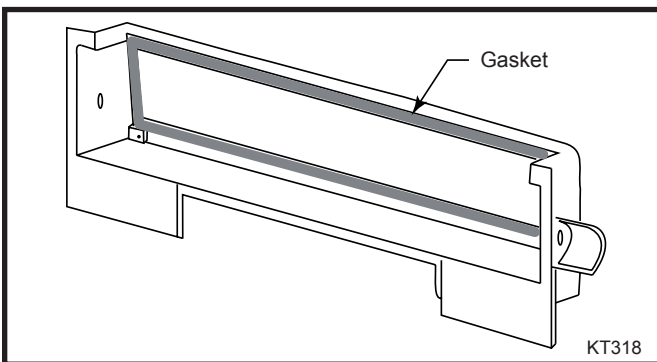

Fig. 9 Back view of upper fireback (damper and rod removed).
9. Pull the damper rod out of the upper fireback. Release the bolts holding the steel tabs in place, and remove the damper. Pull off the old gasket and clean off the old cement. Thoroughly clean the damper plate and around the damper opening in the upper fireback. Cut a piece of the 5/16" gasket material to length, allowing a one inch excess. Place a continuous 1/8" bead of gasket cement in the damper gasket channel. Press the new gasket in place, trimming off the excess length. (Fig. 9) Remove any excess cement. Replace the damper, the steel tabs and bolts, and the damper rod. Close and lock the damper to seat the gasket. Use waxed paper between the damper and the upper fireback to keep the cement from traveling through the gasket and sticking to the fireback.